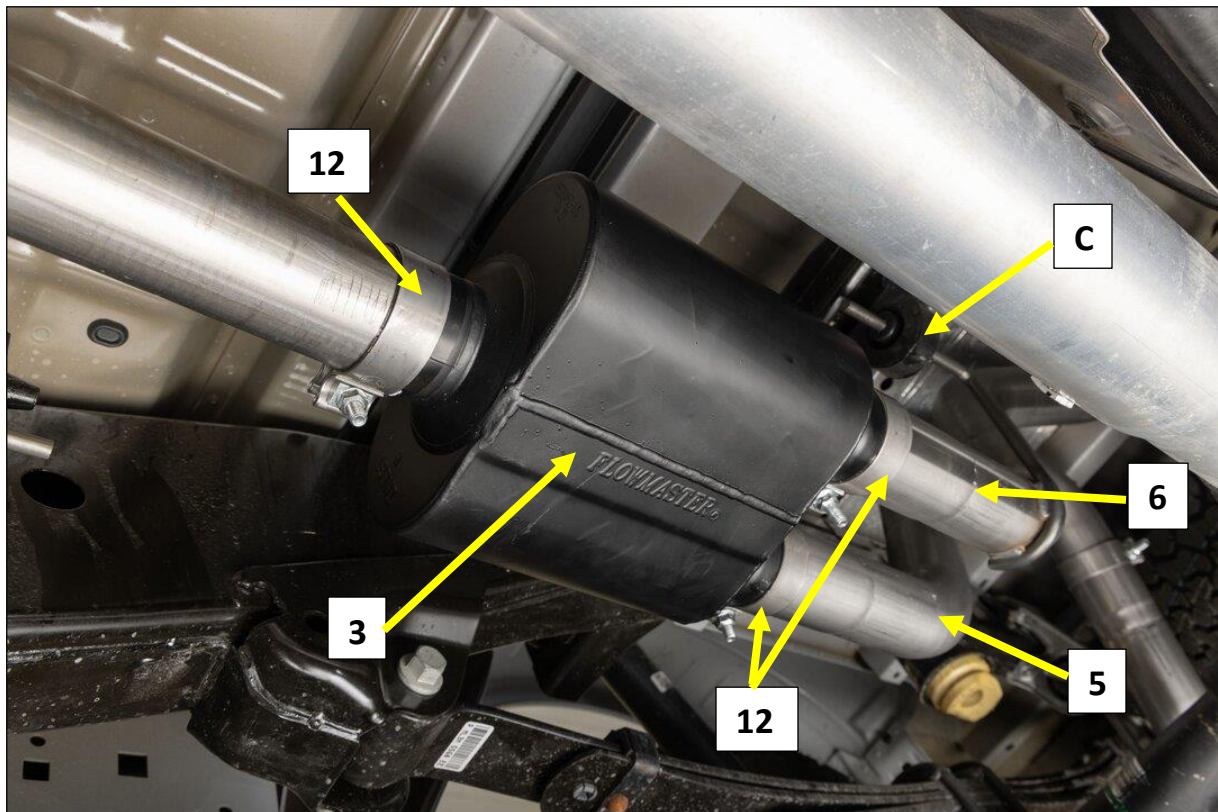

Figure 9
1. Install a 3" band clamp (12) on to each of the three-muffler inlet and outlet pipes with the bolt to the outside and the nut facing down. **Fig. 9**
2. Install the American Thunder Muffler (3) on to the muffler inlet pipe with the Flowmaster logo facing the ground. **Fig. 9**
3. Tighten the inlet clamp (12) to allow for adjustment.
4. Reinstall the muffler hanger assembly (C). * Be sure the tab is in the slot (not the round hole). **Fig. 9**
5. Install the left Muffler Outlet Pipe (6) into the muffler while guiding the hanger rod into the isolator(C). **Fig. 9**
6. Install the Right Muffler Outlet pipe (5) into the muffler and tighten the clamp to allow for adjustment. **Fig. 9**